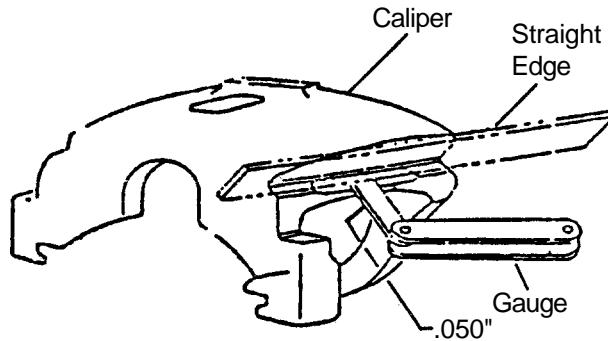

Figure 1
3. Lay a straight edge across the caliper V-way surfaces as shown in Figure 1 and measure the wear on these surfaces using a feeler gauge. Calipers which display wear of .050" or greater should be replaced.